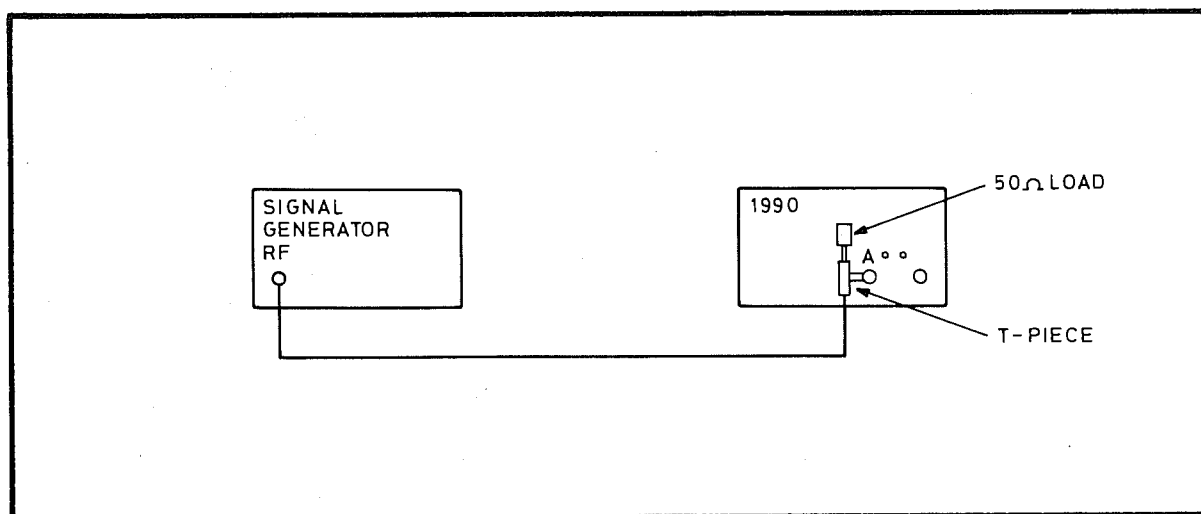

Fig 7.17 Connections for Channel A Sensitivity PVP
- 52 (1) Switch on the 1990, and ensure that the channel A trigger level control is switched to 0V.
- (2) Connect the test equipment as shown in Fig 7.17.